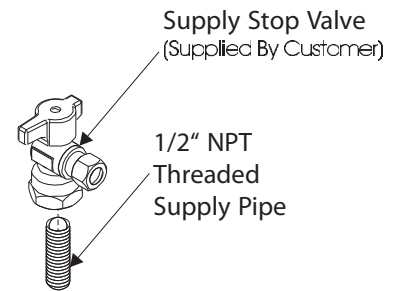

Figure 1.
- A 1/2" NPT threaded water supply pipe and a 1/2" NPT threaded air supply pipe must be 1" tall maximum, above the finished floor. Using the proper thread sealant, install a supply stop valve (not included) to each 1/2" NPT threaded pipe. Important: After the sealant has set using its manufacturer's directions, use the supply stop valves to purge the water and air supply to remove any debris in the supply line. See Figure 1.